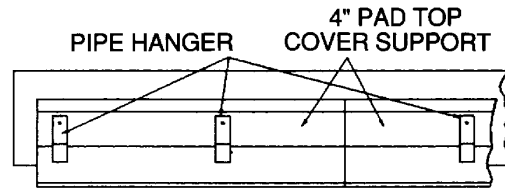
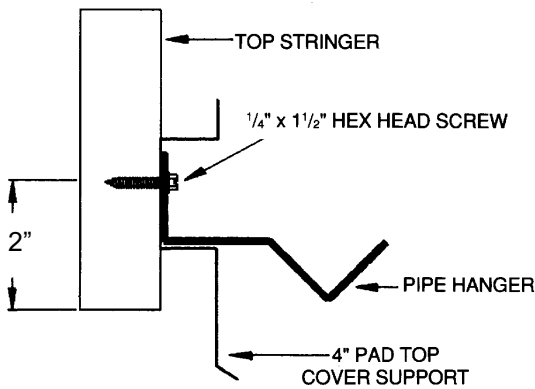
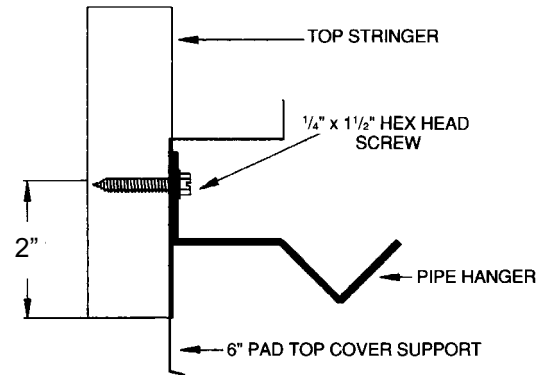

Figure 6
Figure 7
Figure 8
1. Beginning at the drain end, install the top cover support sections and the pipe hangers to the top stringer by lining up the top holes of the top cover support sections with the chalkline on the top stringer. Attach the hangers and the top cover support sections to the stringers with $1/4" \times 1\ 1/2"$ hex head screws as shown in figure 6, and figure 7 (4" systems) or figure 8 (6" systems).